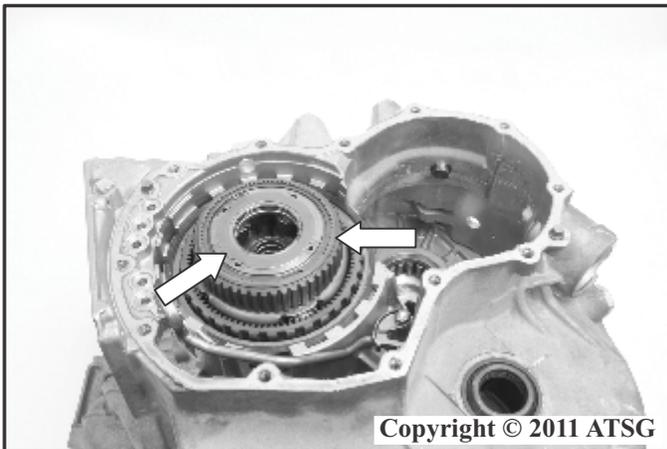

Figure 215
17. Install the rear internal gear assembly into the transaxle with a twisting motion and make sure the rear sun gear thrust bearing race does not become dislodged as shown in Figure 215.